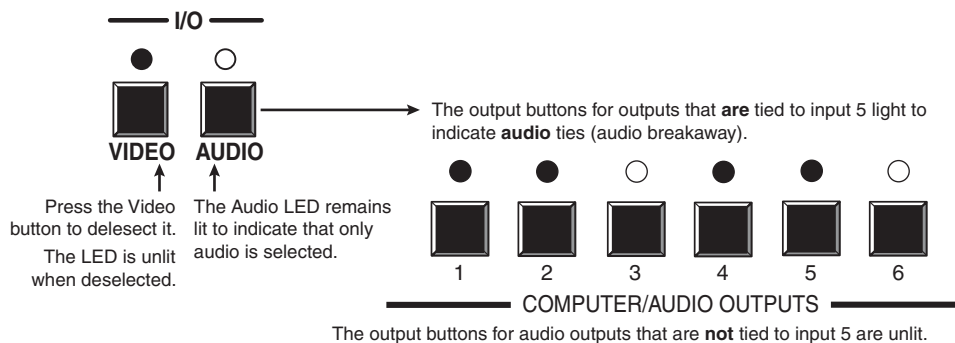

Figure 3-30 — Deselect video to view audio ties only
5. Press and release the Video button to deselect video (figure 3-30).